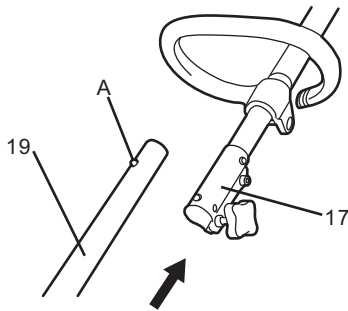

Fig. 2a
- > Align the lower shaft (19) with the clamp (17) so that the safety pin (Fig. 2a, A) is orientated to the middle hole in the clamp.
- > Press the safety pin down and insert the lower shaft (19) into the clamp (17) (Fig. 2a).